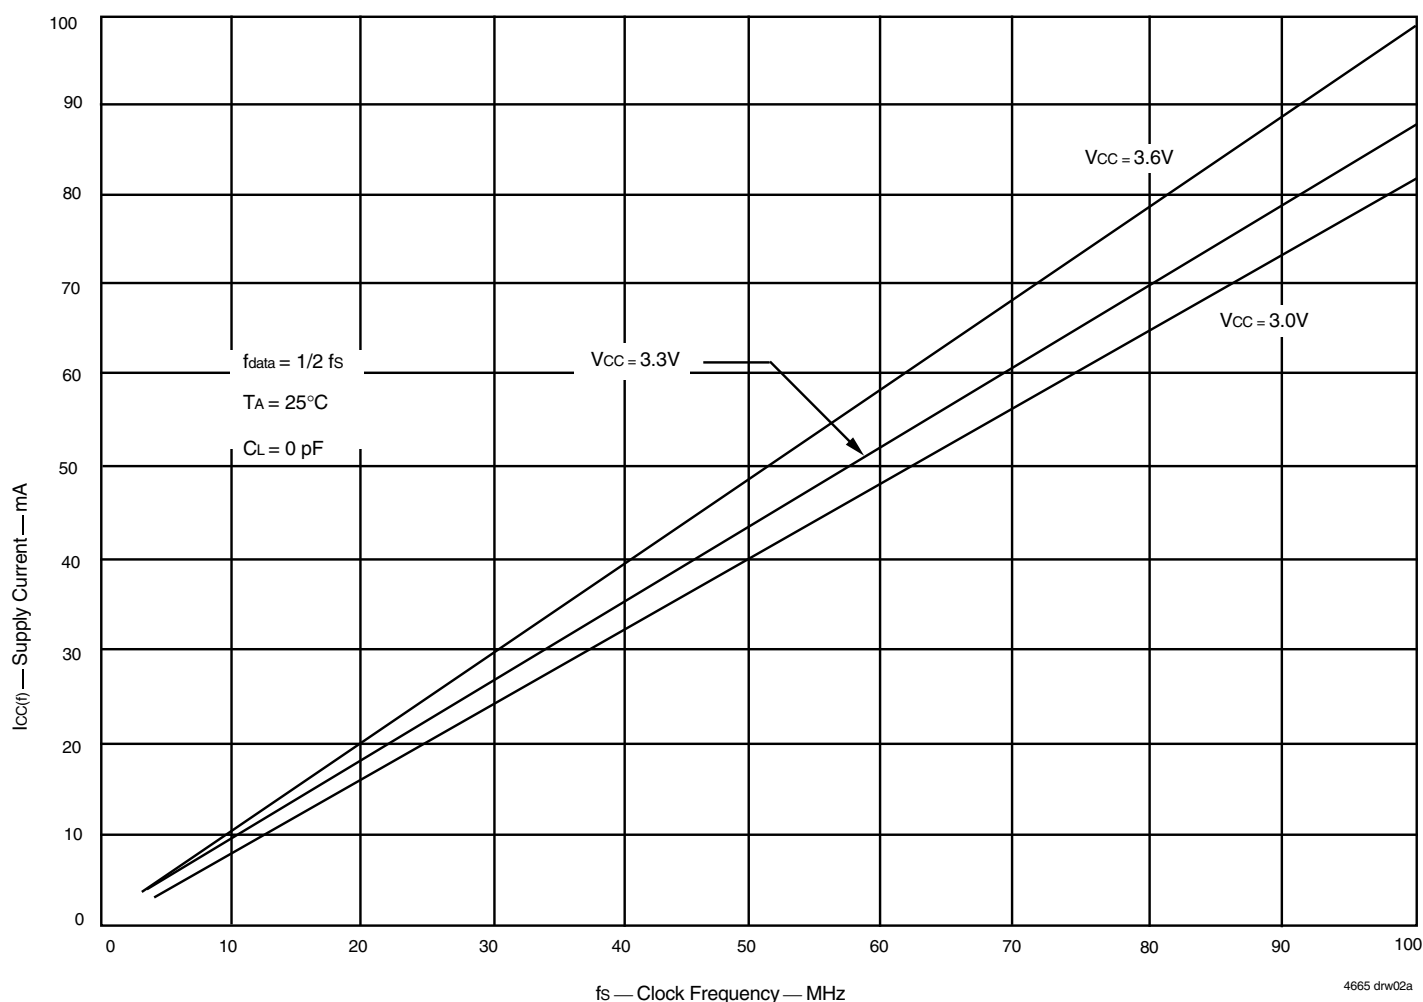

Figure 1. Typical Characteristics: Supply Current (I_{CC}) vs. Clock Frequency (f_s)
- For additional I_{CC} information, see Figure 1, *Typical Characteristics: Supply Current (I_{CC}) vs. Clock Frequency (f_s)*.
The $I_{CC}(f)$ current for the graph in Figure 1 was taken while simultaneously reading and writing a FIFO on the IDT72V3656/72V3666/72V3676 with CLKA, CLKB and CLKC set to f_s . All data inputs and data outputs change state during each clock cycle to consume the highest supply current. Data outputs were disconnected to normalize the graph to a zero capacitance load. Once the capacitance load per data-output channel and the number of these device's inputs driven by TTL HIGH levels are known, the power dissipation can be calculated with the equation below.
With $I_{CC}(f)$ taken from Figure 1, the maximum power dissipation (P_T) of these FIFOs may be calculated by: